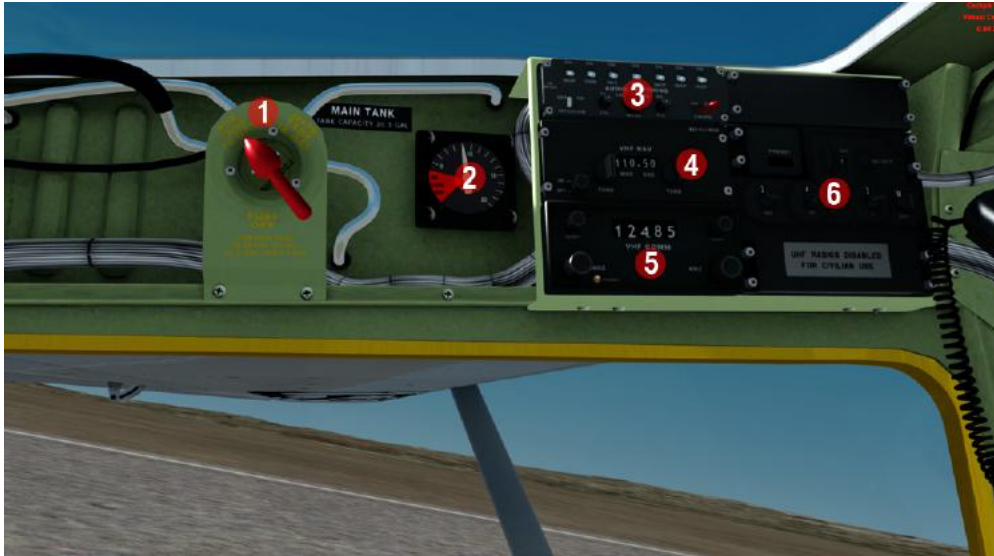

Figure 1-2 Cockpit Layout – Left Side
16. An elevator trim-tab control wheel (Figure 1-2) is located on the left cabin wall. The tab control wheel is mechanically connected to the elevator tab by chains, cables, and a screw-jack actuator. A tab position indicator is incorporated to indicate the trim tab position. The indicator is labelled **NOSE UP**, **NOSE DN**, and **TAKE OFF**.
20. The rear cockpit switch (not fitted) is a four-position spring-loaded and guarded switch installed on the left hand side of the rear cockpit window ledge (Figure 1-2). When the switch is moved from the NORMAL (down and guarded) position, to the OFF (unguarded and up) position, power to the flap selector switch in the front cockpit is cut off. The rear cockpit pilot is then able to adjust the flaps to the desired setting by moving the switch to either the FLAPS UP or FLAPS DOWN position. The rear cockpit flap switch should remain in the NORMAL position when not in use.